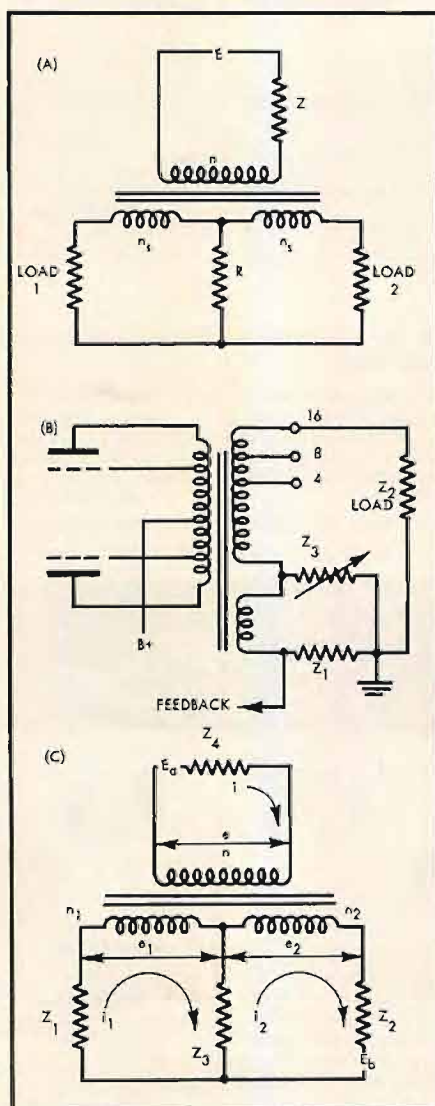

Fig. 1. Schematic of voltage and current relationships of the hybrid feedback arrangement.
In its usual form, the hybrid coil is a three-winding transformer composed of a primary winding and two series-connected secondary coils of equal turns, and is shown diagrammatically at (A) in Fig. 1. If power is fed to the primary, it is divided equally between each load resistor, the two load resistors being of equal value. Another resistor is used to supply balance, and is shown connected between the junction of the two secondary windings. When all circuit resistors are chosen in a certain relationship, the circuit has several unique properties. A voltage placed in series with one load will not be reflected into the other load. A voltage placed in series with the balancing resistor will not appear in the primary winding of the transformer. The hybrid arrangement can then evidently be used to divide output voltage between load and feedback circuit without interaction. It would not be economical to divide power equally between load and feedback circuit, hence the section of the secondary which energizes the feedback circuit is composed of just enough turns to supply the requisite amount of feedback voltage.
As used in the Ultra-Linear II amplifier, the output transformer forms a hybrid coil, and the output circuit is shown at (B) in Fig. 1. The circuit of the output transformer alone is shown at (C). The voltages and impedances appearing across the various windings are as follows: